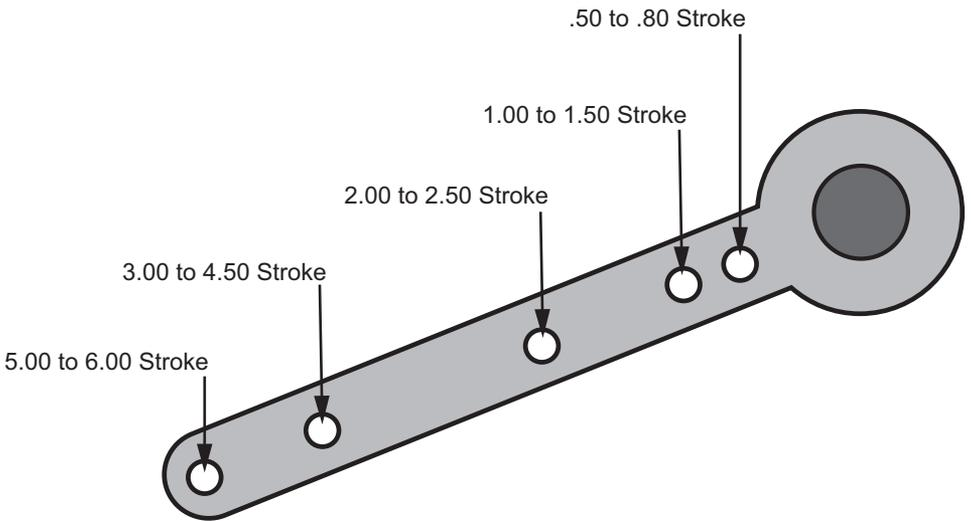

Figure 15 - Standard Lever
This section describes the procedure for mounting the SVI II APN on Reciprocating Valves, using Masoneilan's 87/88 Multi-Spring actuators as an example. Figure 15 shows the standard lever for all size installations.
3. Set rod-ends and brackets to stroke and size of actuator. The default setting is a 4.00" stroke. Other stroke settings are as in Figure 15 on page 25.